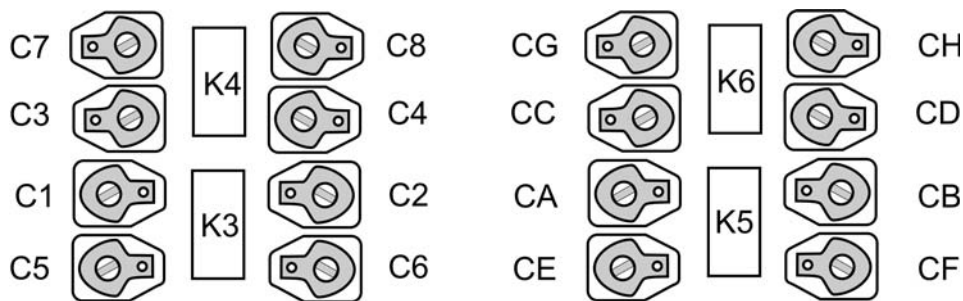

Figure 1
- Page 4:** Replace the note at the top of the page, Figure 1, and the step after with the following. You can cut out the changes below and paste them over the existing note, figure and step on the page.
The approximate locations of the 16 trimmer capacitors on the Filter board are shown in Figure 1. Relays K3-K6 are shown for reference. **Note that each trimmer's body has a narrow end, and that they are not all oriented in the same direction.** The trimmers must be oriented as shown to keep their rotor terminals at ground potential. This will allow them to be aligned with a metallic tool.